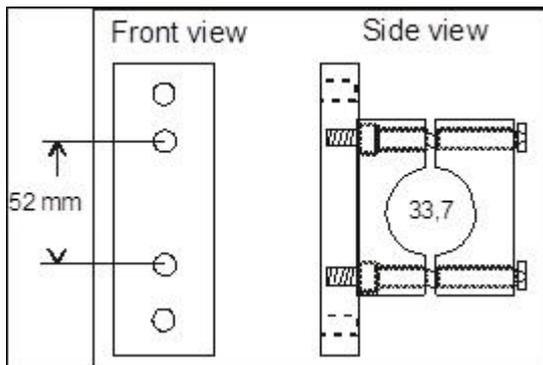
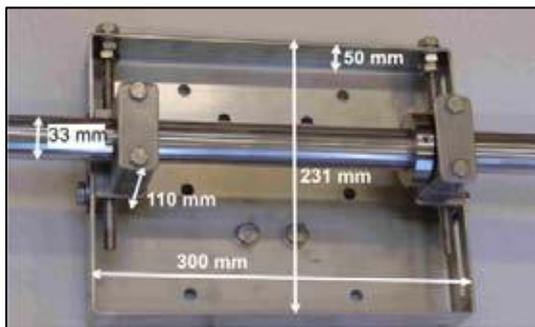
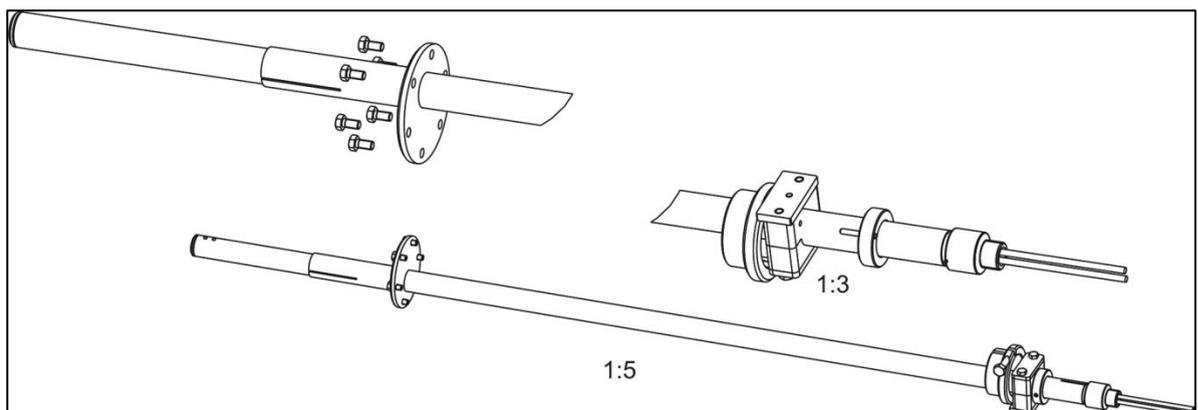

Fig. 2.8. Mounting clamps.
Fig. 2.9. Mounting rack (option).
Fig. 2.10. PosiEye adapter.
- 6) Install the mounting clamps (Fig. 2.8) or the rack (optional, Fig. 2.9) or PosiEye adapter (optional, Fig. 2.10) on paper machine's frame or other solid mounting structure. Leave 20 - 30 cm (8 - 12") between the clamps. It is recommended to leave option to adjust clamp height so that sensor head can be positioned optimally during the start-up.